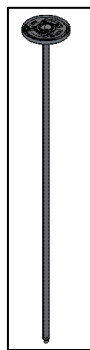

FIG.4 - CANOPY AND STEM SUBASSEMBLY
3. CANOPY AND STEM SUBASSEMBLY. (Pre-assembled as shown in FIG. 4)